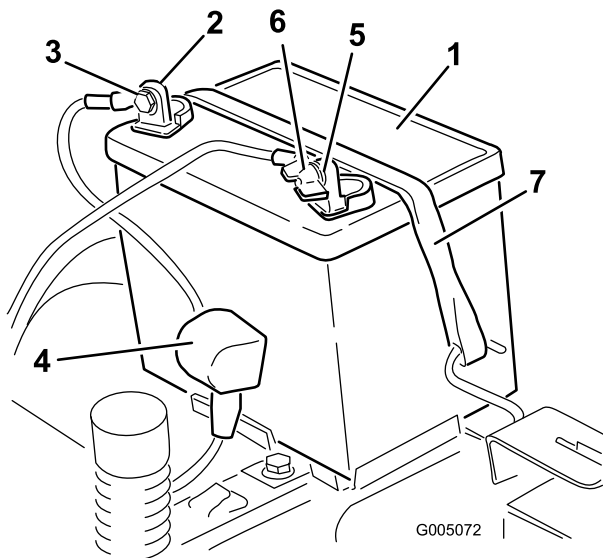

Figure 32
4. Disconnect the negative (black) ground cable from the battery post (Figure 32). Retain all fasteners.
5. Slide the rubber cover up the positive (red) cable. Disconnect the positive (red) cable from the battery post (Figure 32). Retain all fasteners.
6. Remove the battery hold-down (Figure 32) and lift the battery from the battery tray.
1. Position the battery in the tray with the terminal posts toward the operating position (Figure 32).
5. Secure the battery with the hold-down (Figure 32).